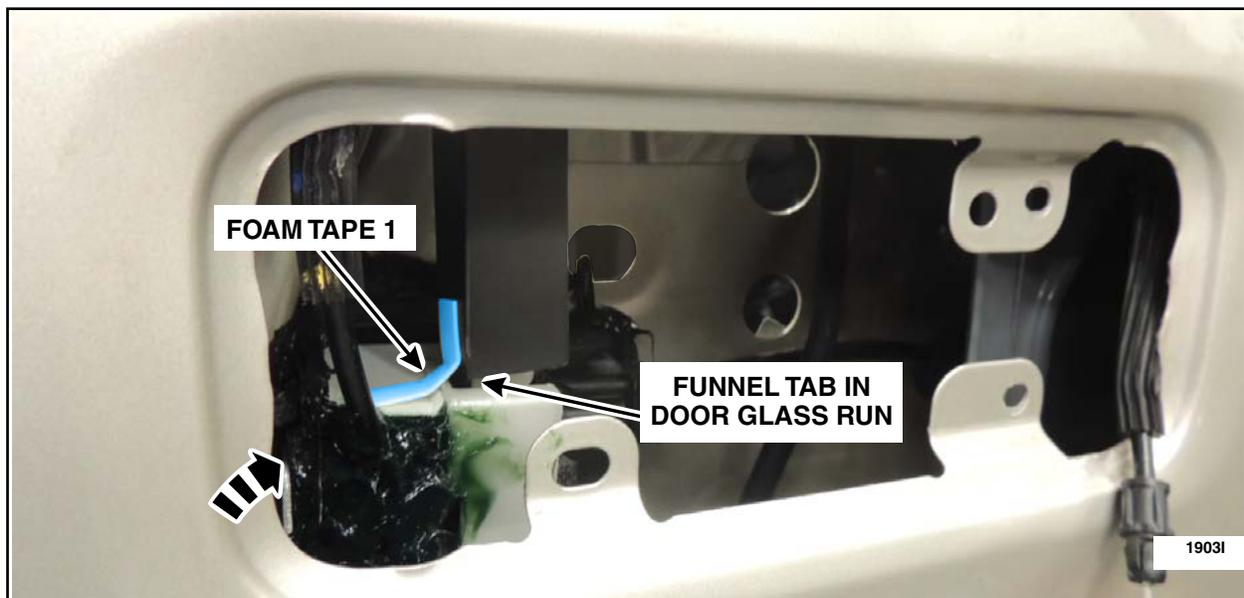

FIGURE 29
11. Install Foam Tape 1 in the location shown to hold the funnel in place. See Figure 29.